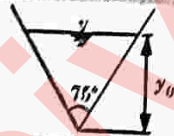

Fig. 1.26.1.
1. From Fig. 1.26.1, Area, $A = \frac{1}{2} \times 0.80 \times 2 \times 0.8 \times \tan\left(\frac{75^\circ}{2}\right) = 0.491 \text{ m}^2$